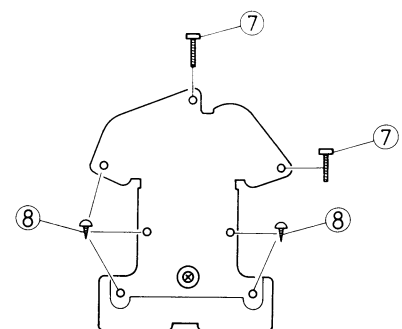

Fig. 12
6. Cam motor and reel motor (Fig. 12)